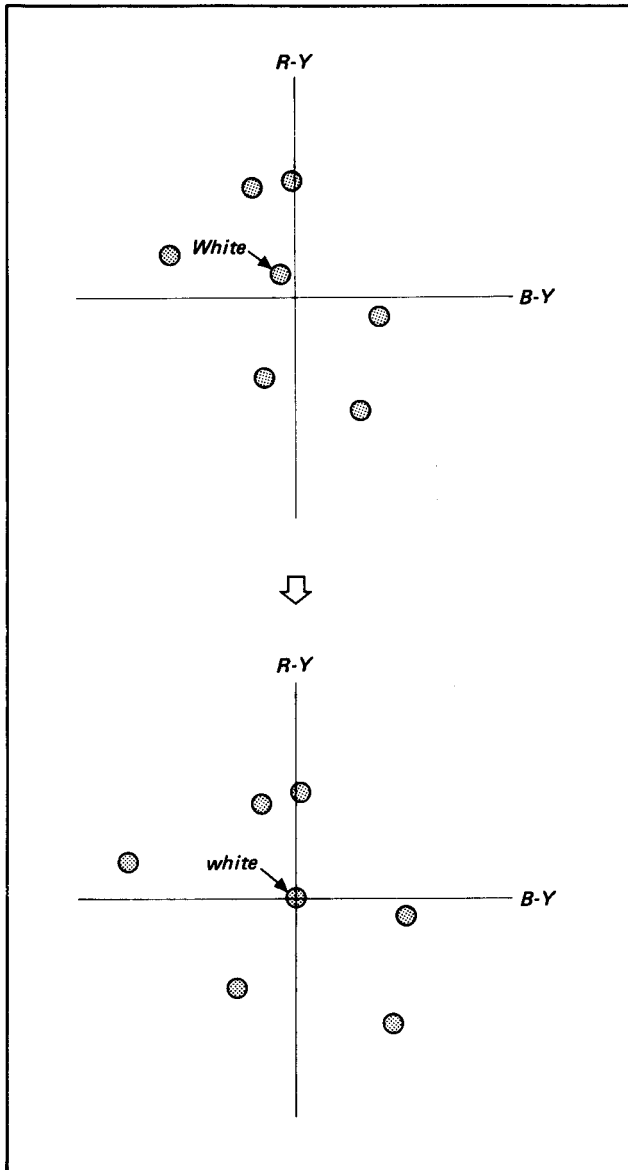

Fig. 2-36
- 1) Adjust with RV513 and RV514 so as to let the white spot become the origin. (Fig. 2-36)